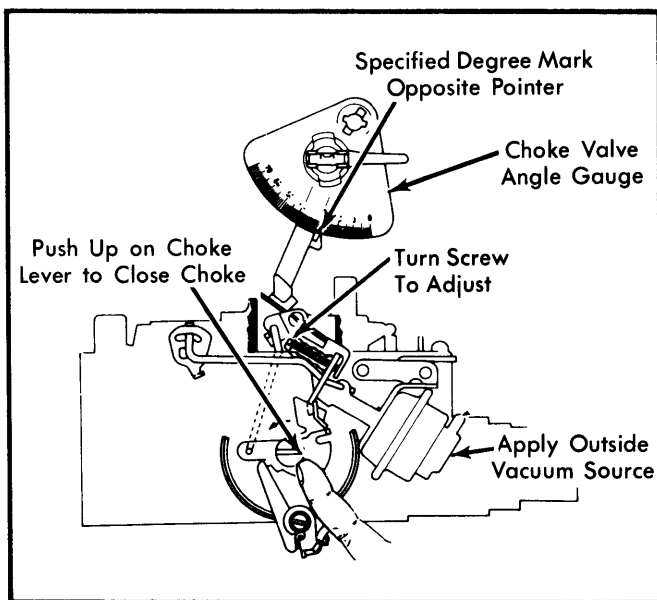

Fig. 8 Adjusting Front Vacuum Break
1) Using an outside vacuum source of at least 15 in. Hg, seat front vacuum break diaphragm. See Fig. 8.